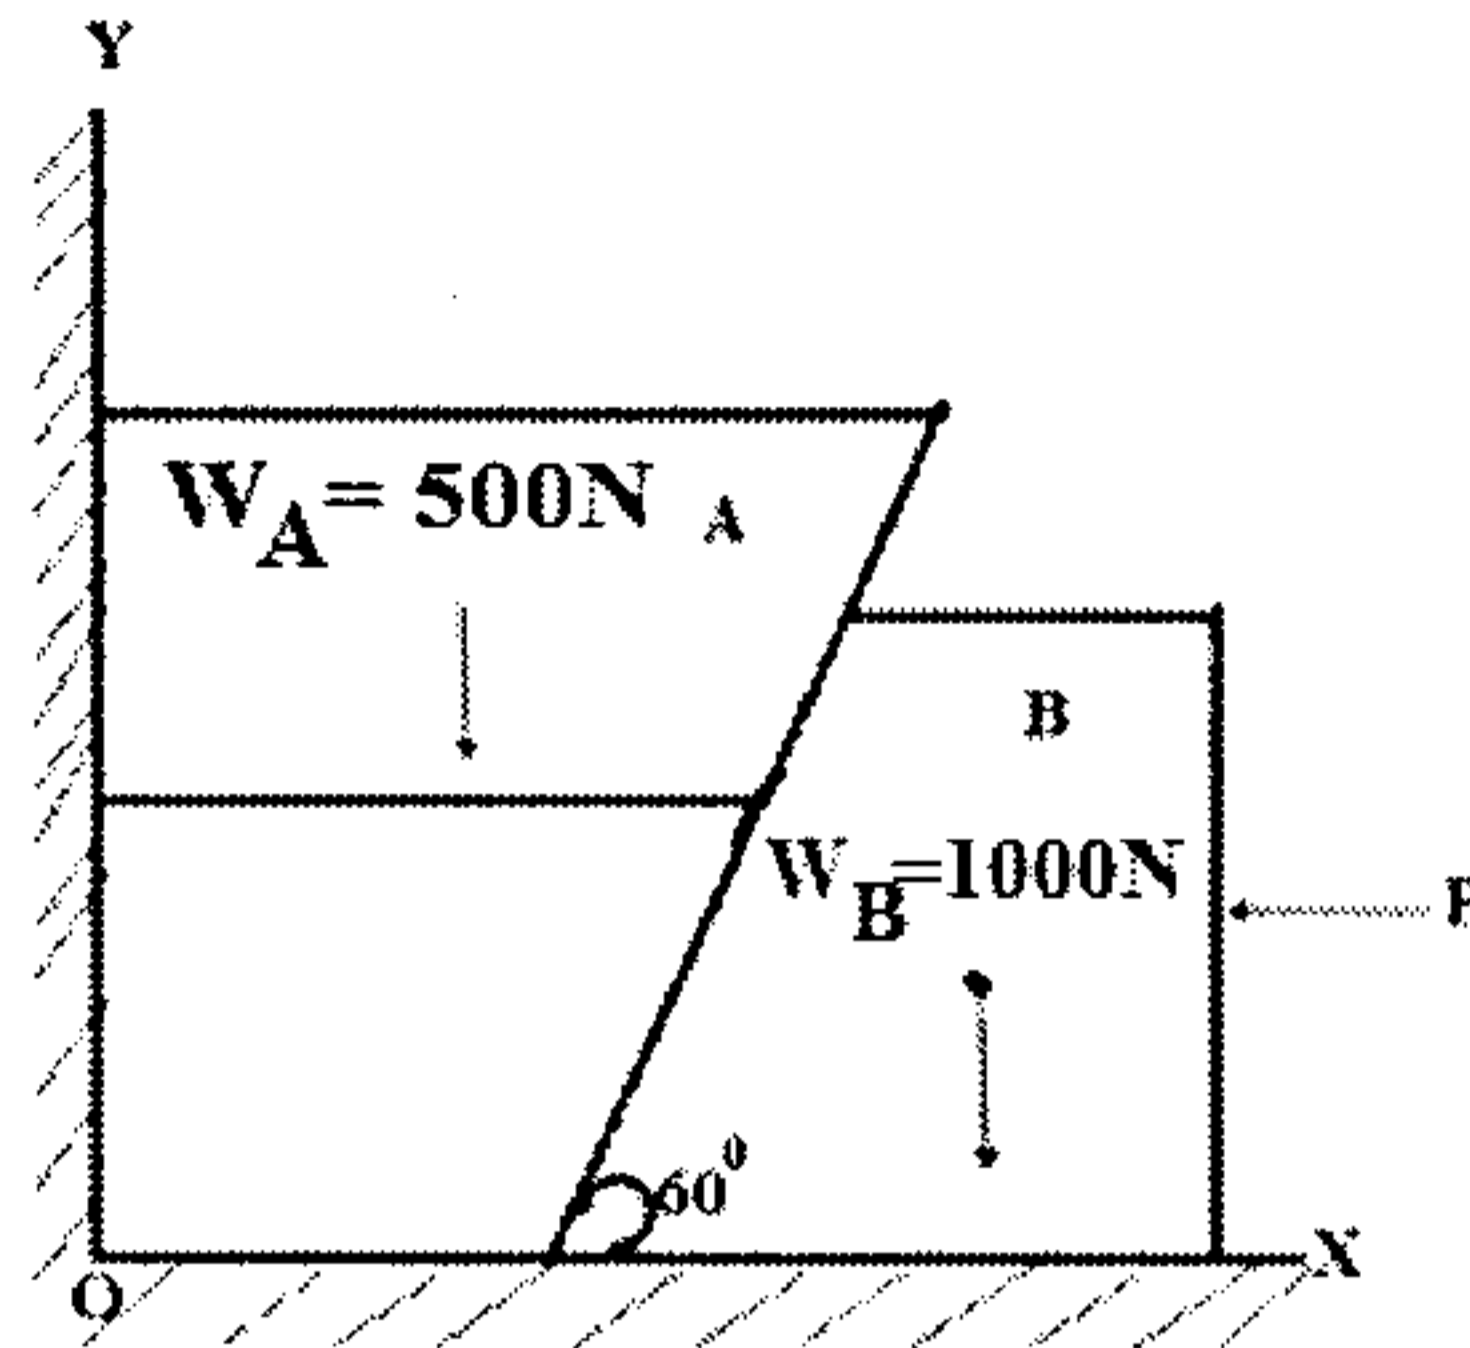

Figure : 4
- 5) Two blocks A and B are resting against a wall and the floor as shown in Figure:4. Find the value of the horizontal force P applied to the lower block that will hold the system in equilibrium. Coefficients of friction are: 0.25 at the floor, 0.3 at the wall and 0.2 between the blocks.